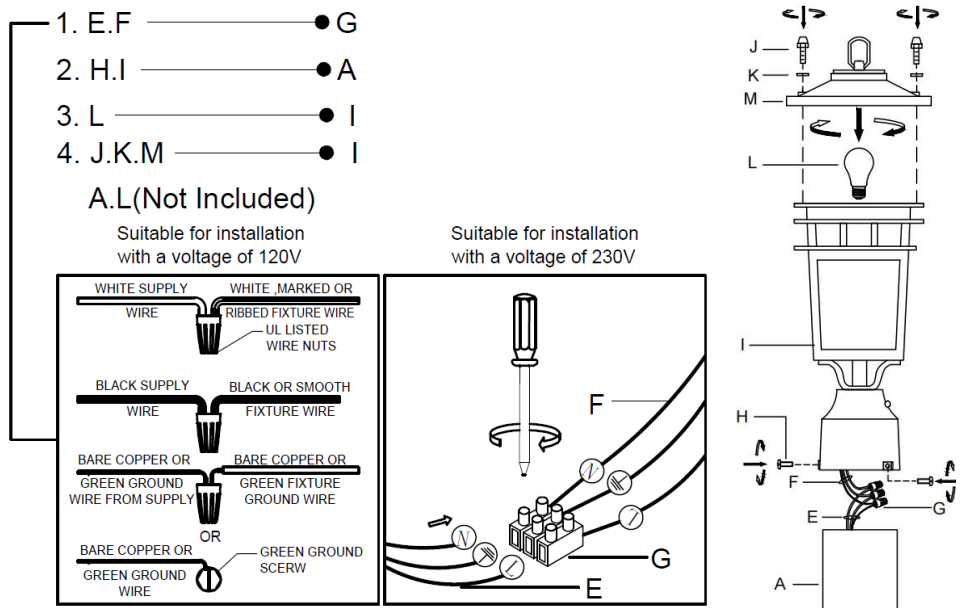

Figure 2
- Schematic diagram of component installation.(See Figure 2).